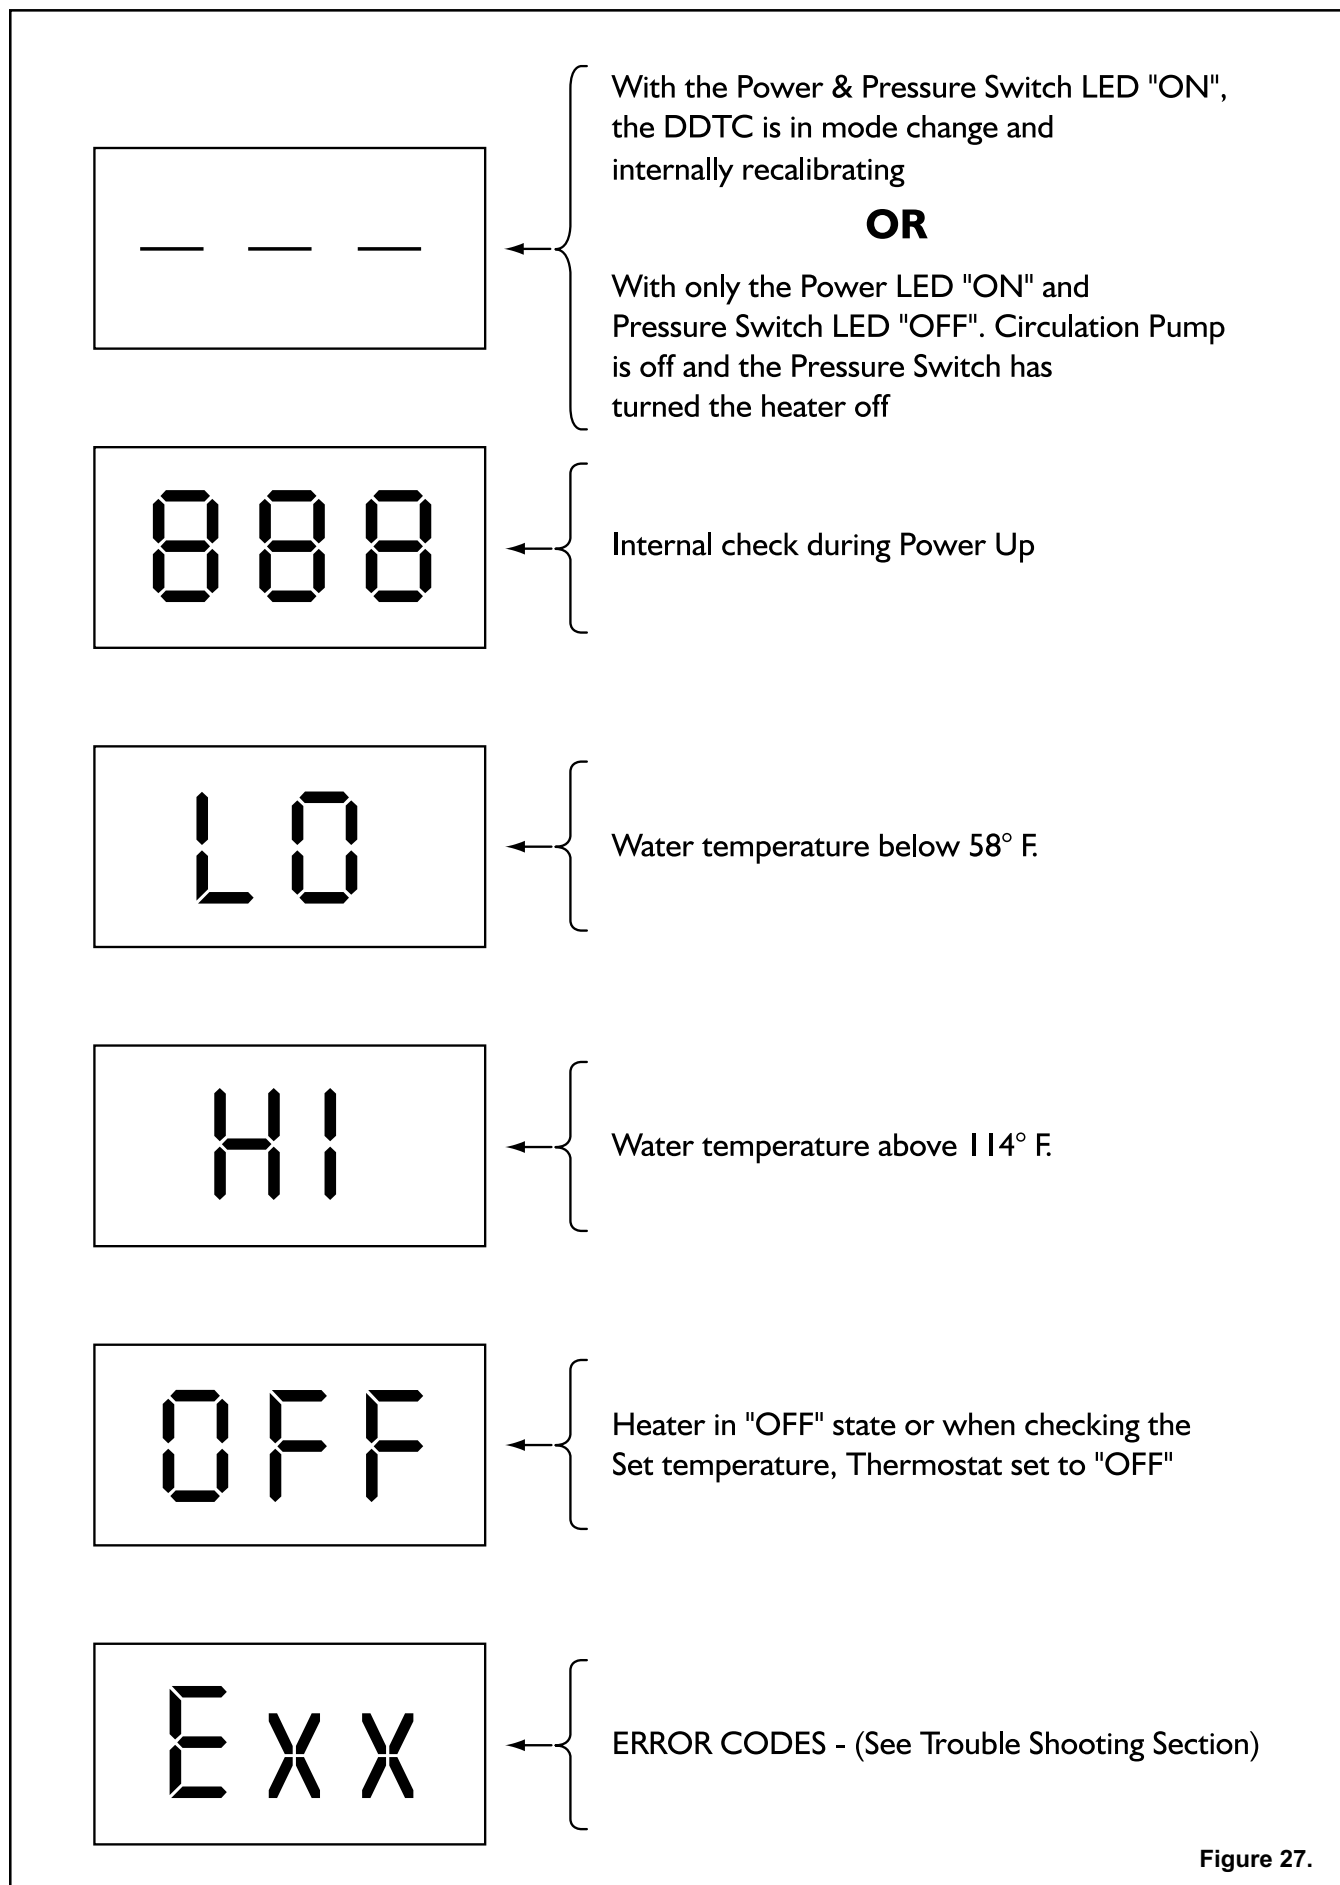

Figure 27.
The MiniMax NT Heater comes from the factory preset with a pool temperature setting of 78° F. and a preset spa temperature of 100° F., and in the off mode setting. Once the power is turned on, the DDTC board will do a self diagnostic internal check, during this time the display will first read “888”, then the display will switch to three dashes “- - -”, this process takes approximately ten (10) seconds. The DDTC will then illuminate the “Power” LED and “Off” LED, see Figure 27.
The DDTC temperature display contains three LED's with a decimal point between the first and second, this display is also used to display an error code if for some reason there is a failure within the heater control system or a DDTC internal fault. The DDTC will display the actual temperature or set-point temperature or OFF, as selected by the user. When DDTC detects an error, the display will show Exx, see Figure 27, where Exx is the error code of DDTC fault, see Table 13. Codes 1 through 9 indicate a “soft lockout” error that means after these errors are fixed, the heater will resume normal operation and restart immediately. Code ERR indicates a “hard lockout” error that means after these errors are fixed, you need to reset the power of the heater through the switch on the bottom of the electrical junction box on the right side of the cabinet.